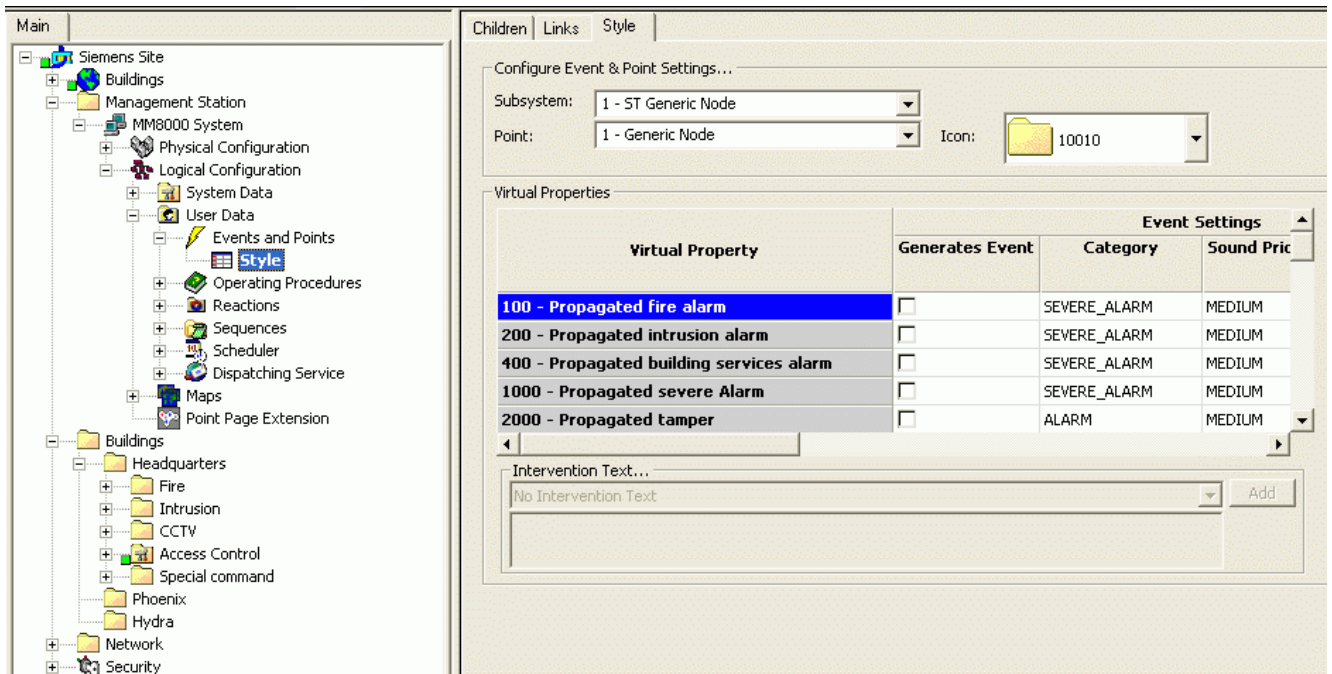

Fig 14 Customising event settings of SiPass Doors
- In the Event and OP Extensor tab of each individual point, customise the options of an event (e.g.: modifying the event settings for the properties as in Fig 14)
- In the Style tab of 'MM8000 system - Logical configuration - User Data - Event and Points - Style', customise the options of a class of points (e.g.: modifying the event settings for the properties of Door points as in Fig 14)